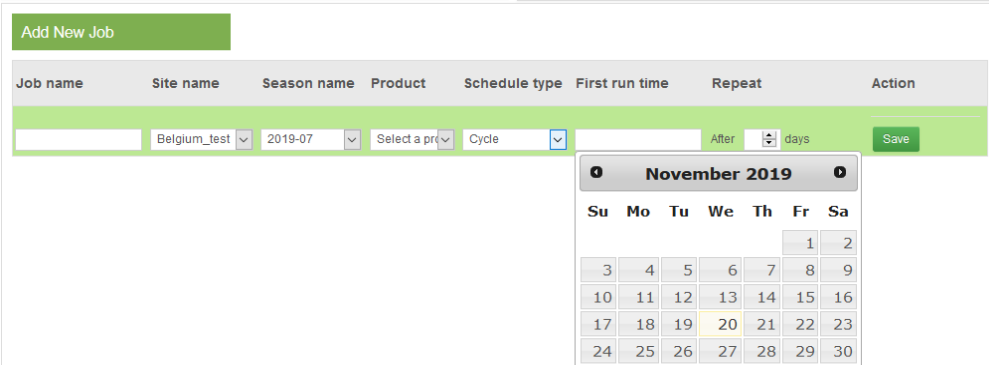

Figure 4-27. Adding “Cycle” scheduled type
- “Cycle” – this option allows to schedule a task at a certain date and then to reschedule the task after a number of specified days (Figure 4-27). For example, a configuration with the start date of 1st of March and “Repeat after” set to 4 days will execute the scheduler on 1st of March then on 5th of March, then on 10th of March and so on.